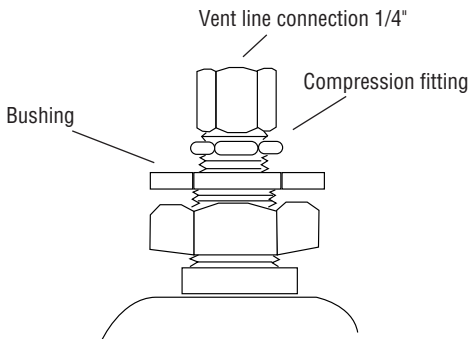

FIGURE 2
2. Bottom Connection Models: Bushing and compression fitting are shipped loose in carton. Install these items in fitting on top of drain before installation. Refer to Figure 2.